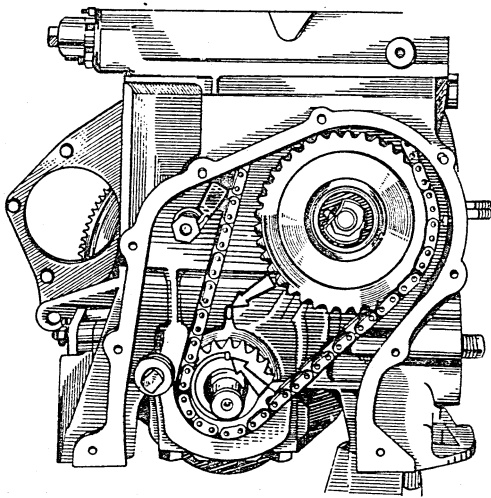
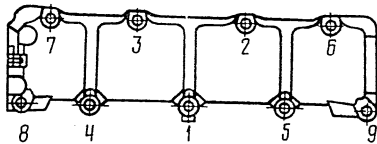
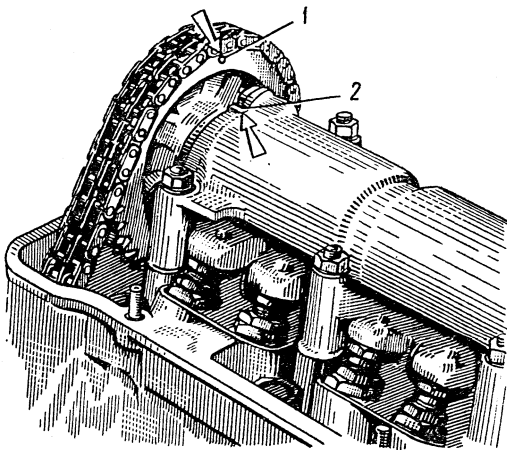

Fig.2-17. Alignment of Timing Marks on Crankshaft Sprocket and on Cylinder Block
Fig.2-18. Camshaft Bearing Housing Nut Tightening Sequence
Fig.2-19. Alignment of Timing Marks on Camshaft Sprocket and on Bearing Housing:
Turn the flywheel so that the mark on the crankshaft sprocket checks with the mark on the cylinder block (Fig. 2-17).
Install the sprocket on the camshaft assembled with the bearing housing and turn the shaft so that the mark on the sprocket faces the mark on the bearing housing (Fig. 2-19). Remove the sprocket and, without changing the position of the camshaft, install the bearing housing on the cylinder head and fasten it by tightening the nuts in the sequence shown in Fig. 2-18.
- put the chain on the camshaft sprocket and move it into the drive space, seeing that the mark on the sprocket checks with the mark on the bearing housing (Fig. 2-19). Do not tighten the sprocket bolt all the way home;
- turn the crankshaft two revolutions in its regular direction thereby ensuring the required chain tension; check to see that the marks on the sprockets are aligned with the marks on the cylinder block (Fig. 2-17) and on the bearing housing (Fig. 2-19);